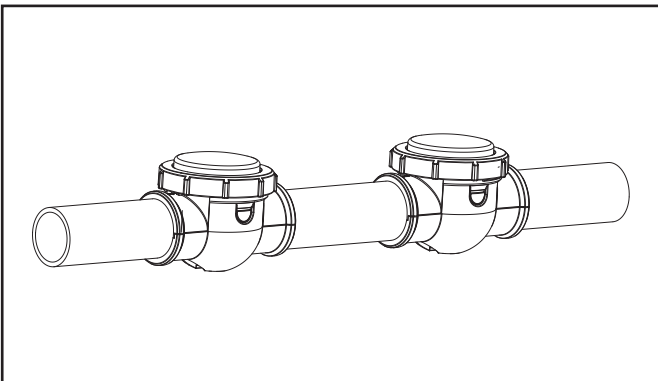

Figure 30. Installing the Winterizing Caps
6. Attach the winterizing cap (see Figure 30)